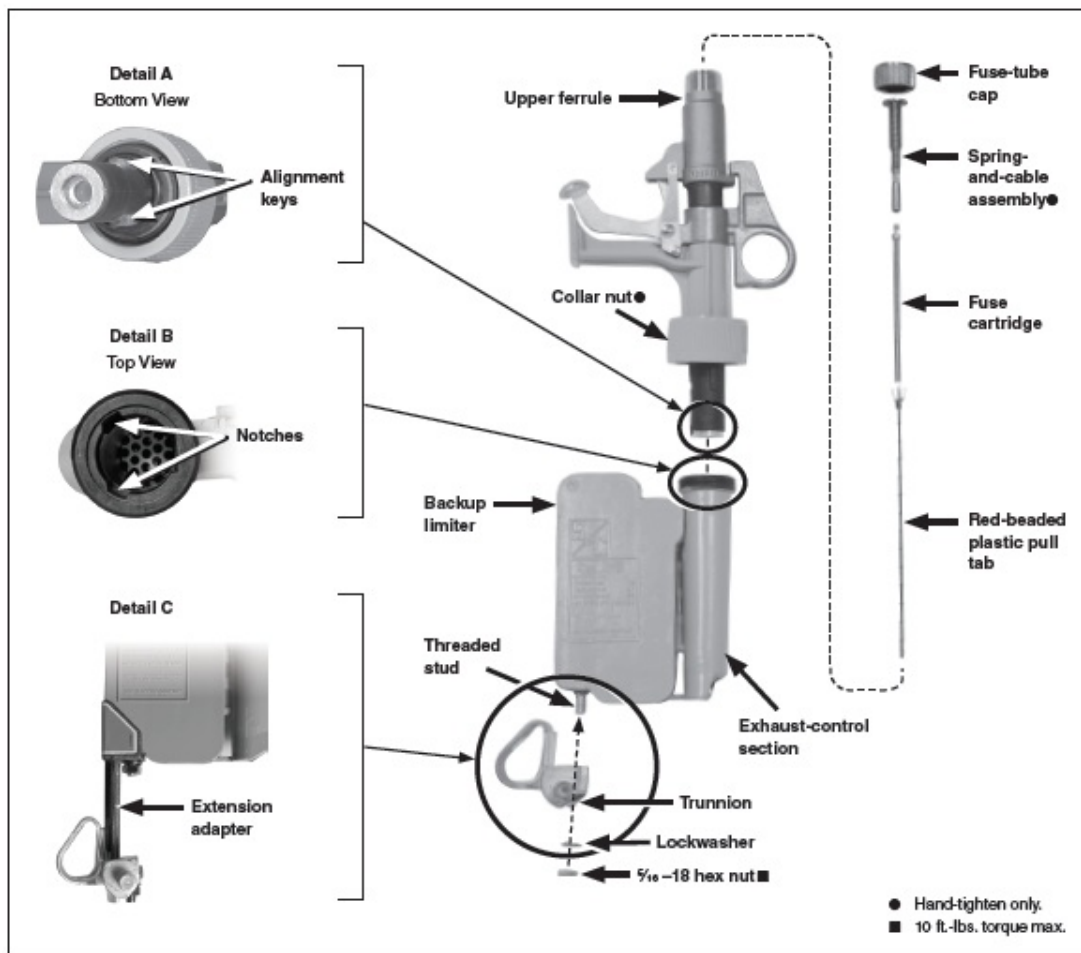

Figure 2. Fault Tamer backup limiter, fuse tube, and fuse cartridge
- **STEP 3.** Pull through the red-beaded plastic pull tab until the large bead at the end of the pull tab engages with the end of the cartridge, as shown in Figure 2, and insert the entire assembly (fuse cartridge and spring-and-cable assembly) into the fuse tube. Then, screw the fuse-tube cap on the fuse-tube upper ferrule and tighten securely with pliers.
- **STEP 6.** Align the keys on the fuse tube with the notches in the exhaust-control section of the backup limiter. See Figure 2, Details A and B on page 8. Insert the fuse tube into the exhaust-control section and hand-tighten the collar nut.
- **STEP 7.** Attach the trunnion to the threaded stud on the backup limiter with the lockwashers and 5/16 –18 hex nut, provided. See Figure 2 on page 8.
For over-insulated Fault Tamer Fuse Limiters with extension adapter: Remove the trunnion from the backup limiter, if installed. Save the hardware. Attach the extension adapter to the threaded stud on the backup limiter with the lock washer and 5/16–18 hex nut provided. Then, attach the trunnion to the extension adapter with the 5/16–18 x 7/8 hex-head cap screw, lock washer, and 5/16–18 hex nut provided. See Figure 2 Detail C on page 8.
- **STEP 8.** Push the upper ferrule down until it reaches a positive stop to verify full travel of the upper ferrule and the latching mechanism. See Figure 2 on page 8.